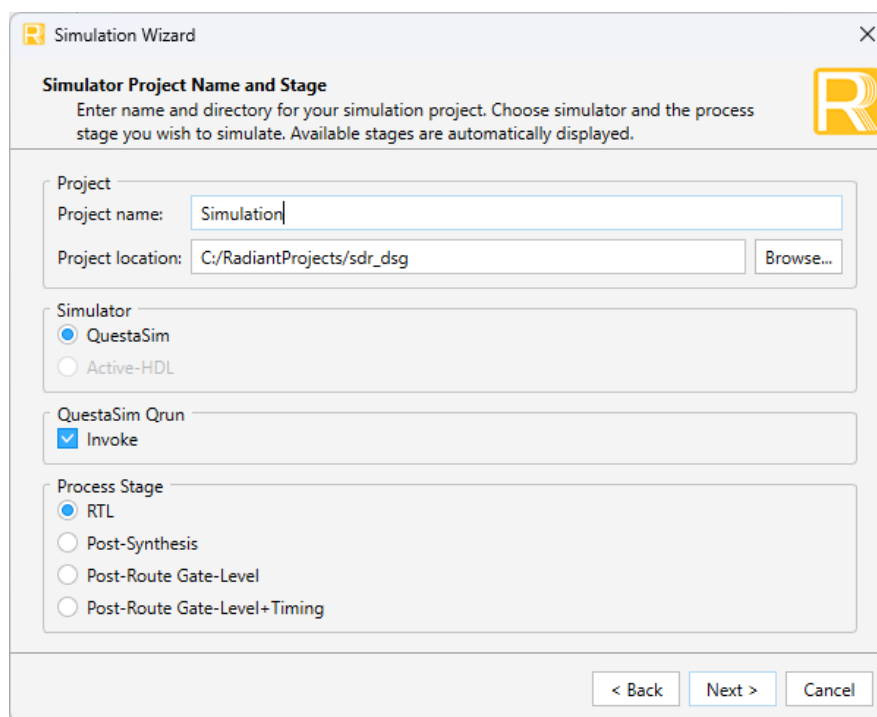

Figure 5.4. Simulation Wizard
1. Click the  button located on the **Toolbar** to initiate **Simulation Wizard** shown in Figure 5.4.